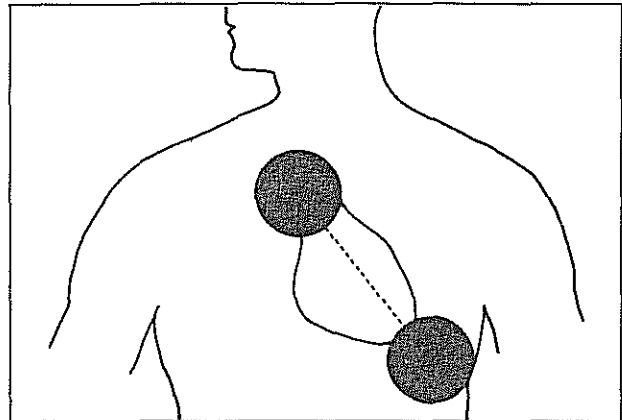

Figure 9
- * Apply the electrodes so that the greater part of the pulse current passes through the myocardium (optimal connecting line between the centers of the two electrodes is over the cardiac median line; Figure 9)